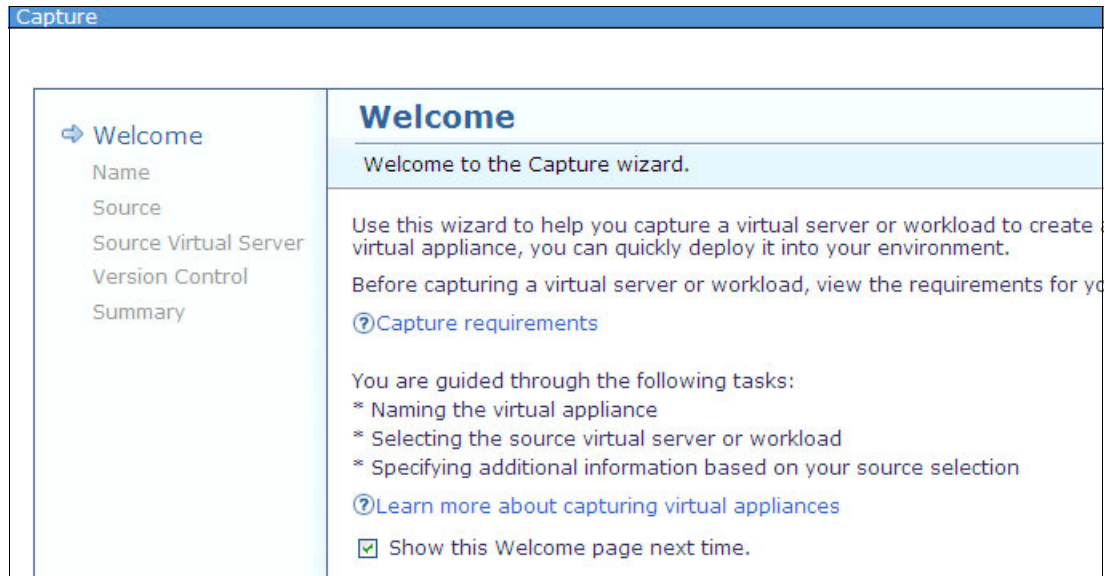

Figure 9-141 Capture Welcome window
2. The Welcome capture window opens as shown in Figure 9-141. Click **Next**.